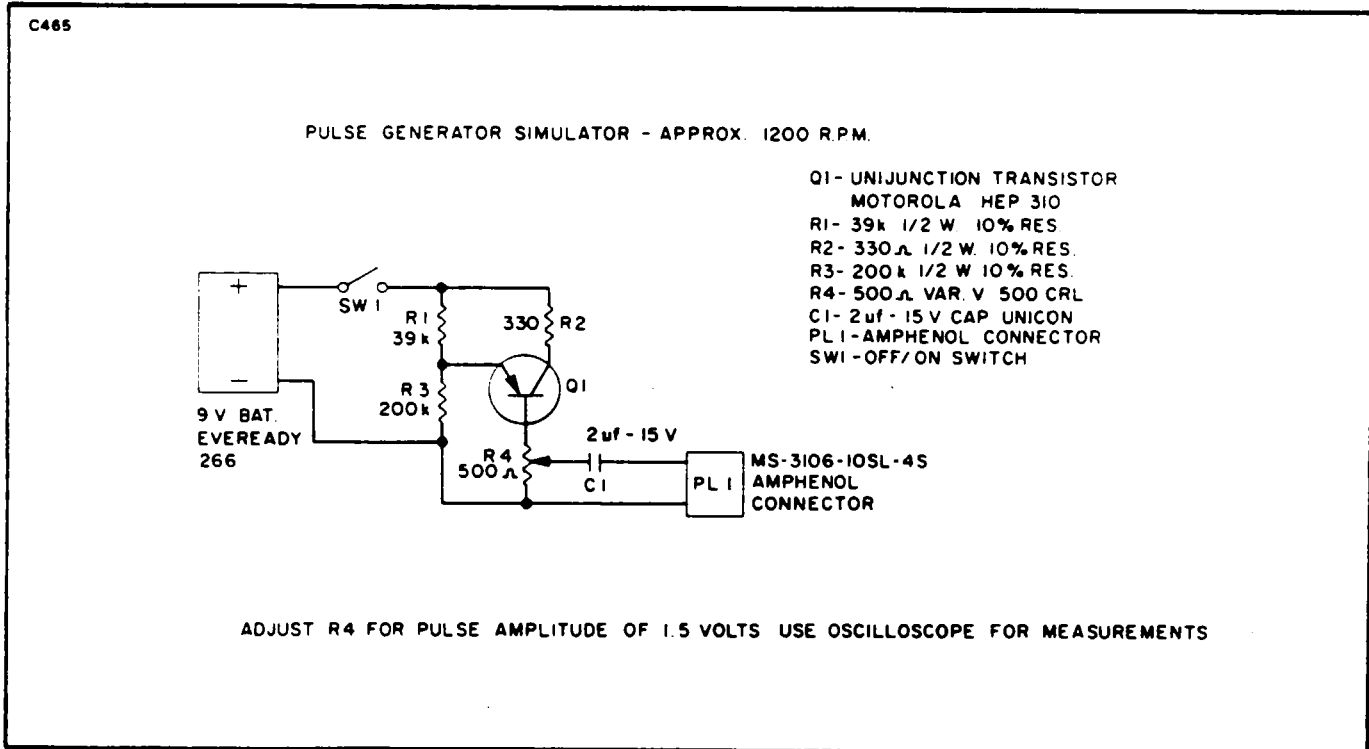

Figure 14-56. Pulse Generator Simulator
- c. Reconnect plug PL3 and visually observe if both glow lamps light with the master engine turning at near cruising RPM. A pulse generator simulator may be used according to paragraph 14-138 and Figure 14-56.